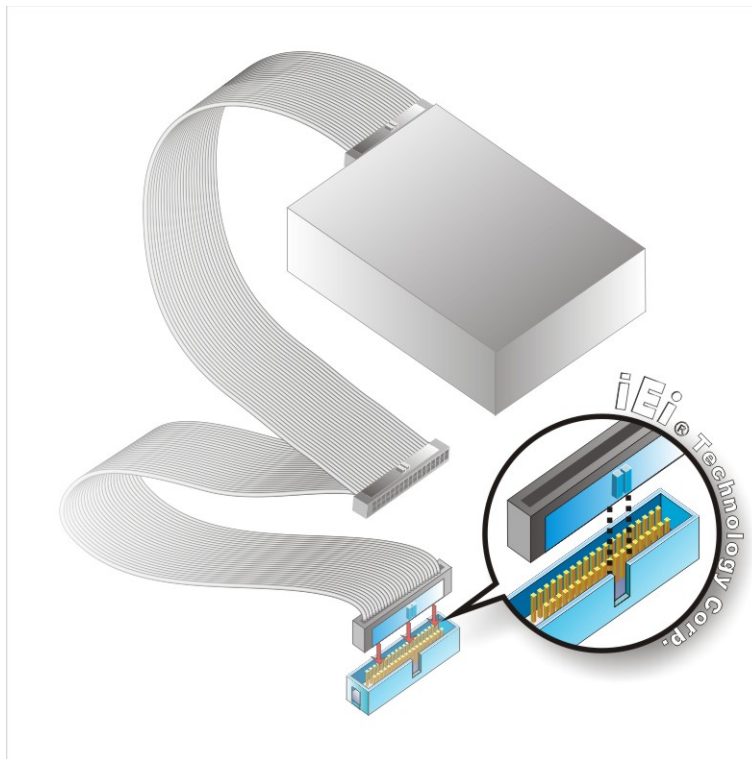

Figure 4-10: IDE Cable Connection
Step 2: Insert the connector. Connect the IDE cable connector to the on-board connector. See Figure 4-10. A key on the front of the cable connector ensures it can only be inserted in one direction.